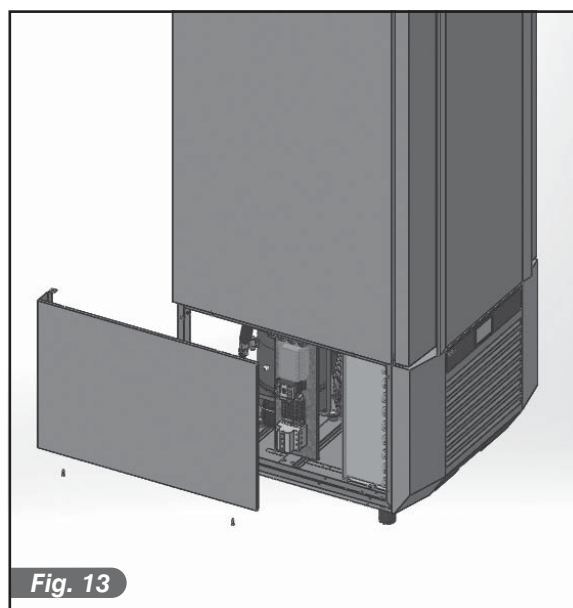

Fig. 13
- Remove the left hand side plate (with the machine in the front position – Fig.13)